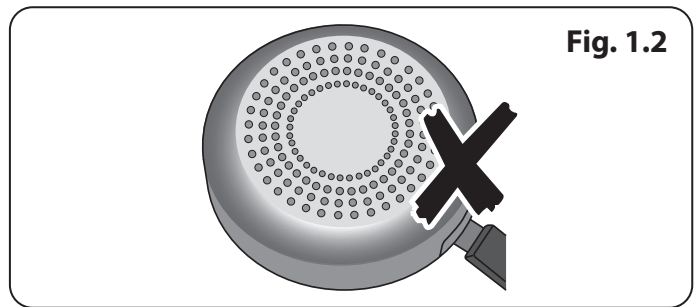

Fig. 1.2
- To fully utilise the power of your induction hob and to ensure longevity of performance, we recommend the use of AGA Rangemaster Induction cookware. If you decide to purchase an alternative set of cookware for use on your induction cooker, we would strongly recommend that composite aluminium cookware with steel inserts, example shown (**Fig. 1.2**), are avoided. This type of construction can significantly reduce the lifetime and performance of your induction cook top.